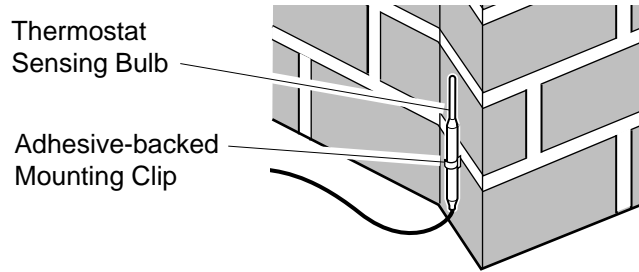

Figure 29 - Locating Thermostat Sensing Bulb on Masonry Fireplace
4. The thermostat sensing bulb may be located to the lower right front side of fireplace. Determine location of sensing bulb, but do not mount sensing bulb until step 5. If you have a masonry fireplace, see Figure 29 on page 30 for location.